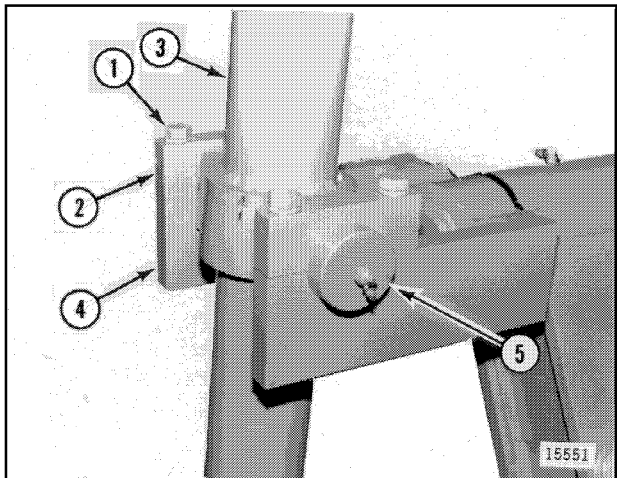

Figure 48
7. Remove four bolts and lock washers (1, Figure 48), two trunnion caps (2), and cylinder (3) from yoke (4).
8. Remove two trunnion bearings (5) from cylinder trunnion pivots.